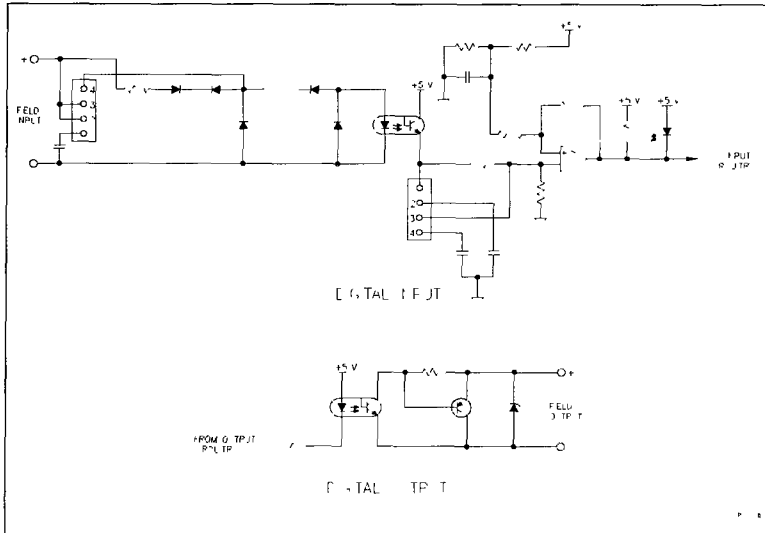

Figure 2-3 IMCIS02 Digital Input and Output Circuits
The CIS can input three separate digital signals and output four separate digital signals. Digital inputs are voltages of 24 VDC, 125 VDC or 120 VAC. These voltages indicate an energized (ON) field device, a 0 volt input indicates a de-energized (OFF) field device. The CIS digital outputs can switch 24 VDC at 250mA. Figure 2-3 shows the digital input and output circuits.